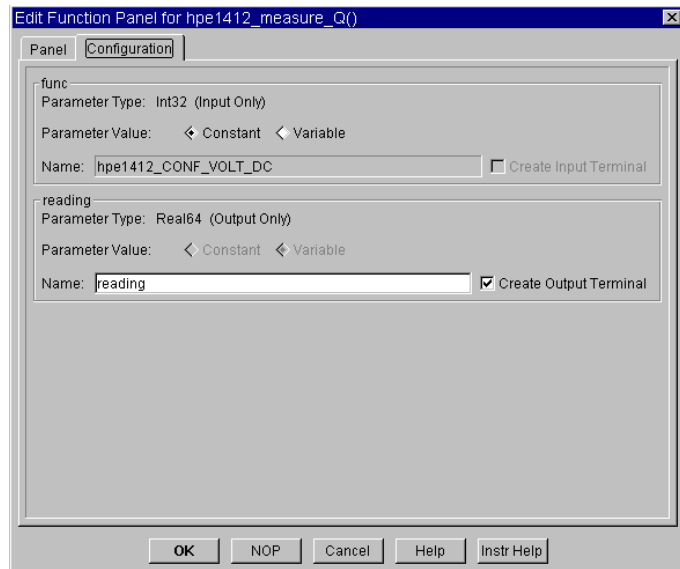

Figure 3-35. Configuration Folder in Edit Function Panel
9. In the To/From Instrument object, double-click to add a function and select Take Measurement under Measure. Click on the Configuration folder to display the dialog box shown in Figure 3-35.